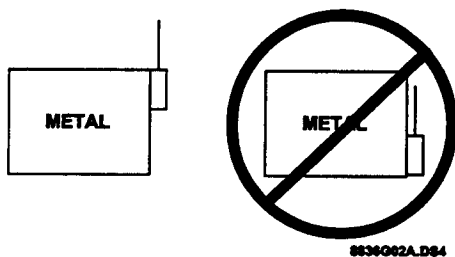

Figure 5. When Mounting on Metal is Unavoidable
- or-- If unavoidable, mount on metal with the antennas extending above the metallic surface (see Figure 5).